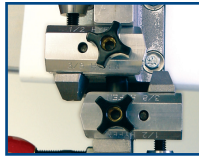

Fig. 1
6. Remove black star-shaped thumbnuts from welder. Select and position correct vee or round dies in welder. Insert a black star-shaped thumbnut into each die and finger-tighten as in Fig. 1.